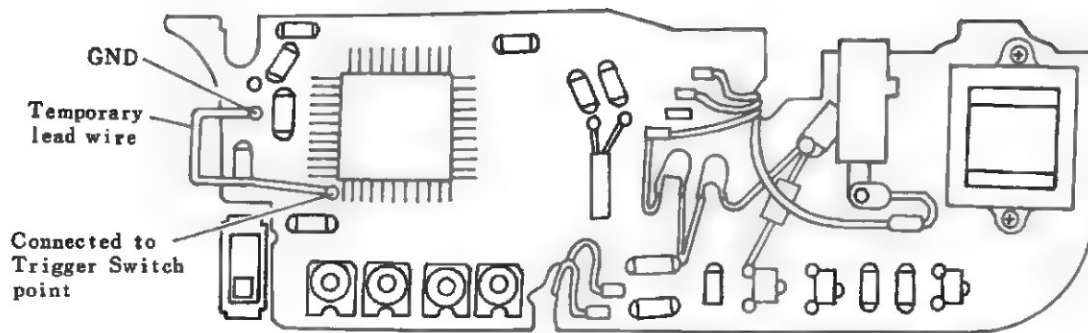

Fig 56
(3) Taking Lens Focus Adjustment.
- ① Remove Top Cover Ass'y.
- ② Load the fresh film into the camera body and advance several frames.
- ③ Short the lead wire (resloder temporary lead wire) which is connected to the Trigger Switch to GND position as shown in (Fig 56).